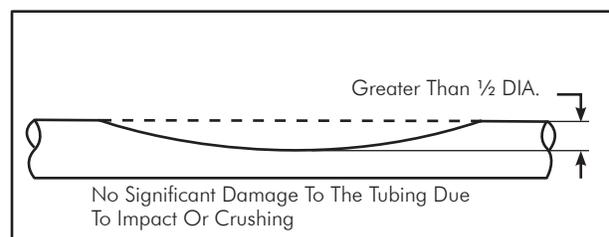

FIG. 5-3 Repair Is Necessary
- The tubing has been significantly damaged (FIG. 5-3).